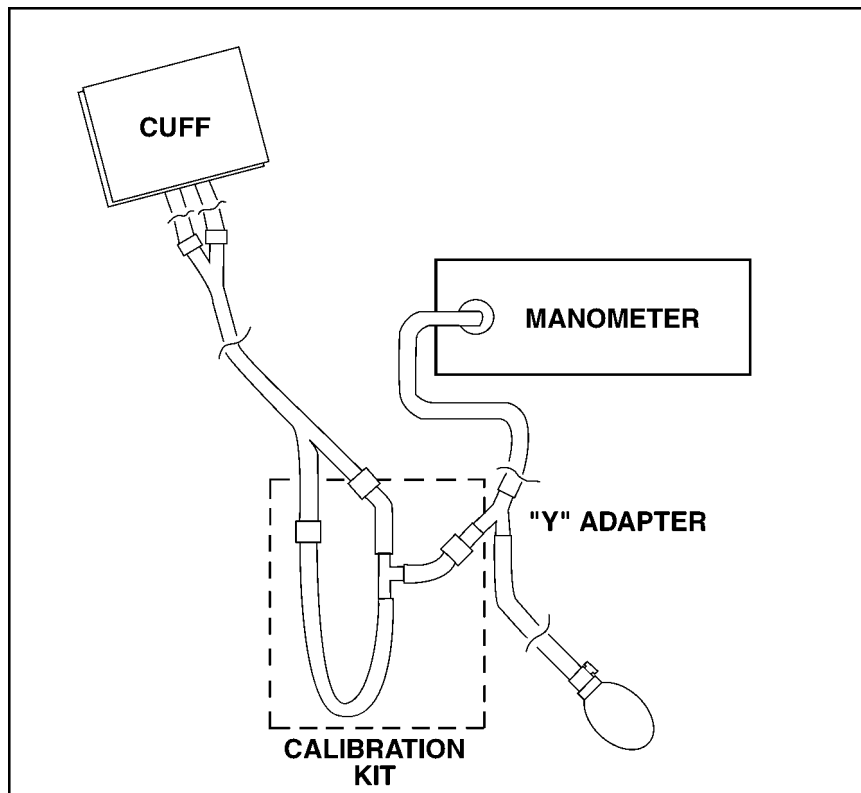

Figure 4-2 Leak Test Setup
9. Using the calibration kit (part number 320-246), an adult cuff and air hose, and a manometer, set up the equipment as shown in Figure 4-2.
2. Using the calibration kit (part number 320-246), an adult cuff and air hose, and a manometer, set up the equipment as shown in Figure 4-2. Do not connect the pneumatic hose to the NIBP port yet.